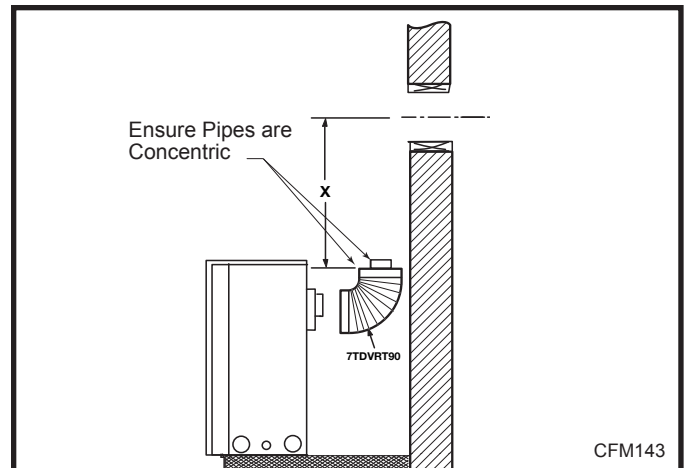

Fig. 29 Apply sealant to inner and outer pipe.
Attach the appropriate venting component(s) to the inner and outer flue collars of the fireplace using three (3) screws. (Fig. 29) Follow with the installation of the inner and outer elbow. Again secure joints with three (3) sheet metal screws.